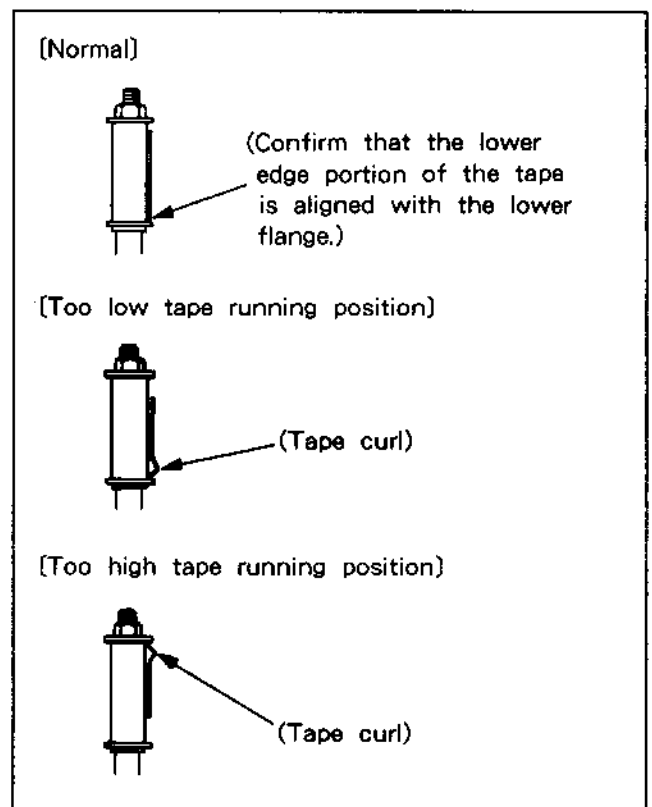

Fig. 5-4-4. Fixed Guide (S)
5-4-3. TAPE PATH CHECK OF ENTRANCE SIDE FIXED GUIDE (S) (See Fig. 5-4-4.)